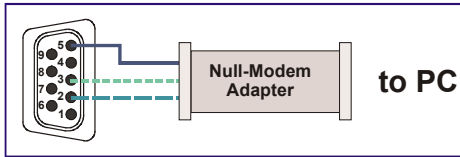

Figure 8: Straight Cable RS-232 Connection with a Null Modem Adapter
**Method B (Figure 8)**—Connect the RS-232 9-pin D-sub port on the unit via a straight (flat) cable to the null-modem adapter, and connect the null-modem adapter to the RS-232 9-pin D-sub port on the PC. The straight cable usually contains all nine wires for a full connection of the D-sub connector. Because the null-modem adapter (which already includes the flow control jumpering described in Method A above) only requires pins 2, 3 and 5 to be connected, you are free to decide whether to connect only these 3 pins or all 9 pins.